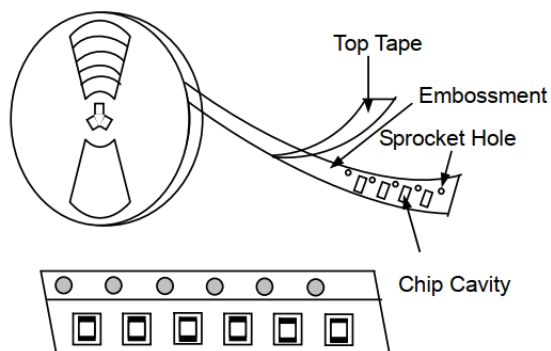

Fig. 6.1-1
- Tape carrier packaging are specified in attached figure **Fig.6.1-1~3**